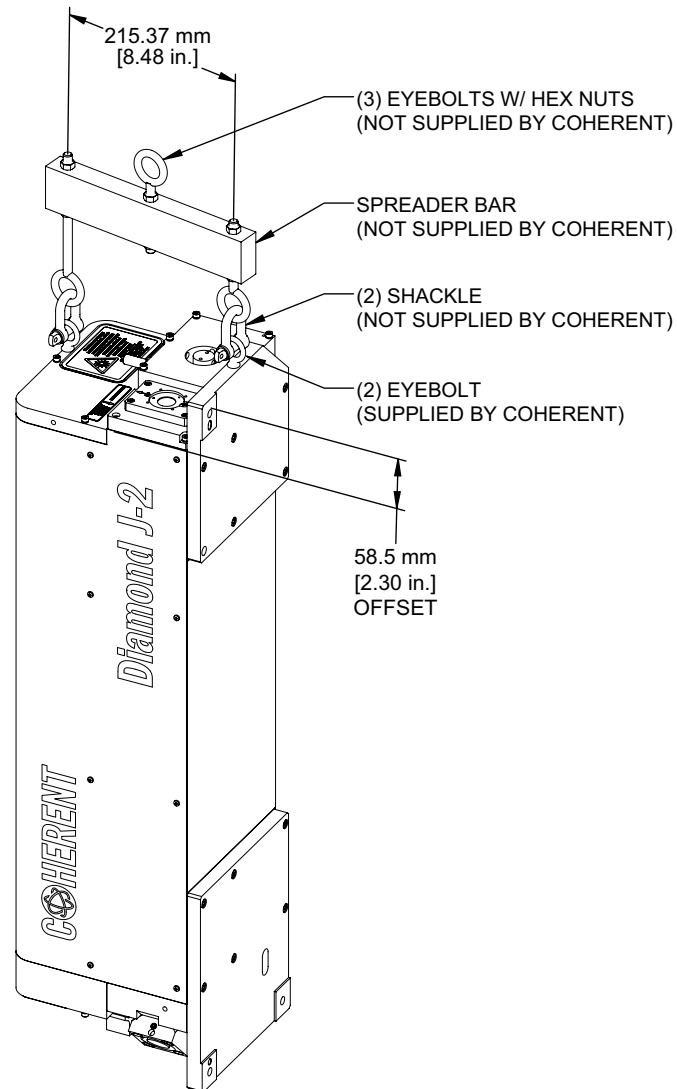

Figure 4-15. Vertical Mounting Illustration
1. Install eyebolts into screw holes. See Figure 4-14 for screw hole locations. Do NOT use the top eyebolt locations during vertical lift (refer to Figure 4-15 on page 72).
2. Securely connect appropriate slings or chains to the eyebolts and a user-supplied spreader bar. Chains/slings must be vertical when under load. See Figure 4-15.
3. Carefully lift the laser system while preventing the free end from moving around. See Figure 4-15.